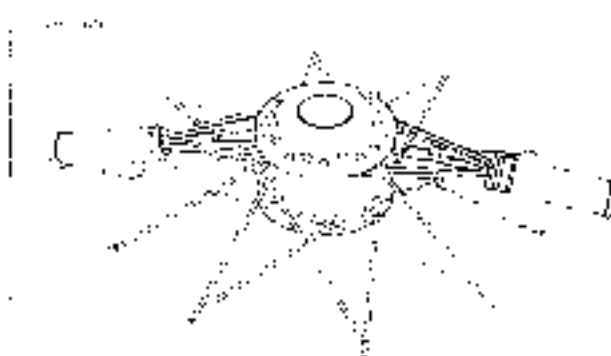

Figure 2-30. Bundling Top Spokes
6. See Figure 2-30. With all forty spokes inserted in hub, group all spokes on top flange into two bundles. Secure each group with tire chain grip to keep the spokes together.